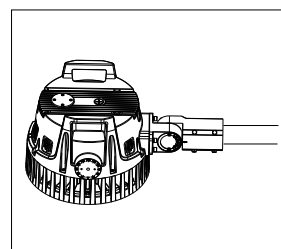

Figure 15
- Loosen the fixing and adjusting bolts, align the fixture to the required angle, and tighten the adjusting and fixing bolts once the angle is confirmed (Figure 15).